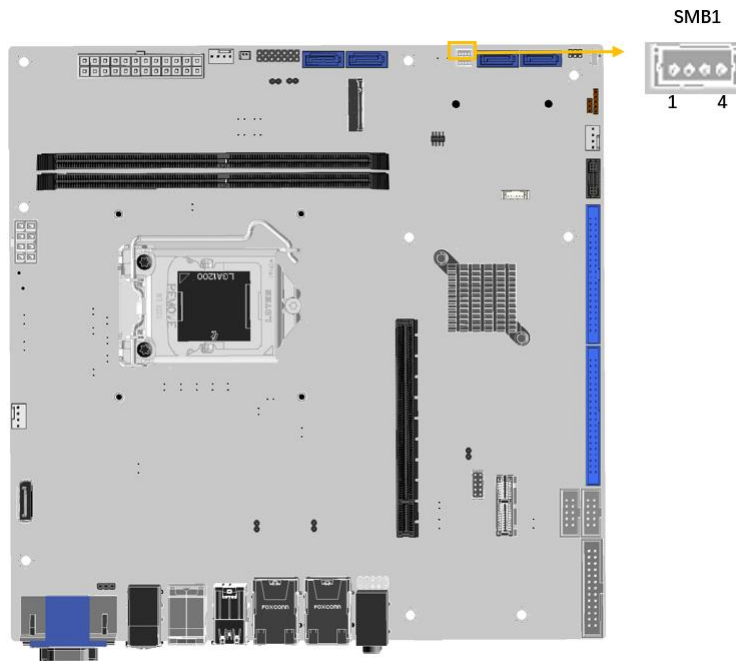

Figure 3-22: SMBus Connector Location
- CN Location:** See Figure 3-22